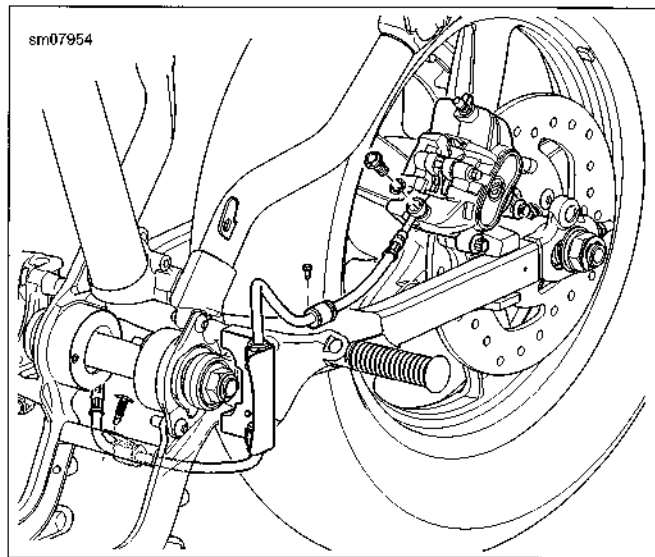

Figure 2-83. Rear Brake Line to Caliper
- See Figure 2-83. Open plastic clamps in brake line bracket.
- See Figure 2-83. Route brake line through plastic clamps in brake line bracket.